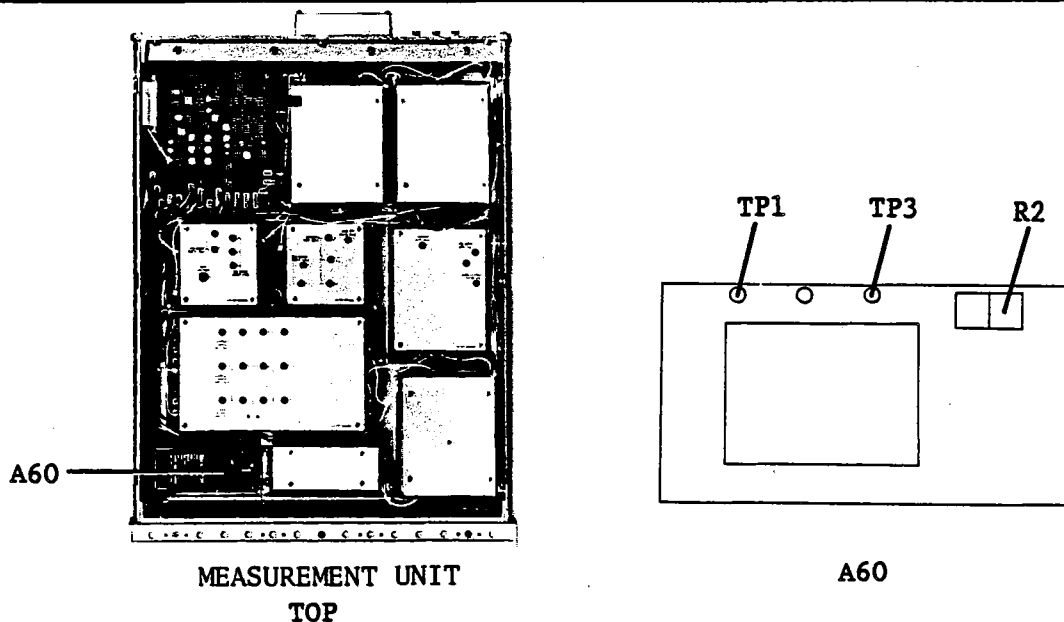

Figure 3-7. Supply Voltage Adjustment Locations
2. Connect the Voltmeter low lead to A60TP3, and the high lead to A60TP1. See Figure 3-7 for the TP locations.